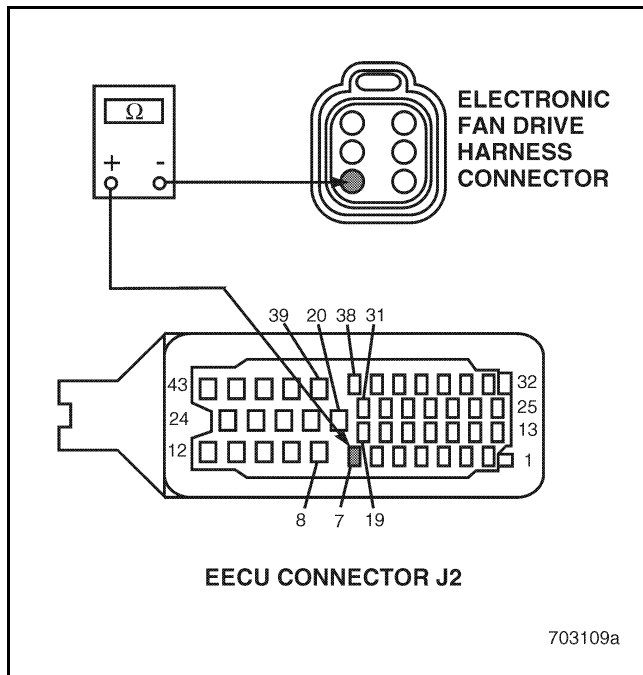

Figure 125
4. Check for continuity between EECU harness connector J2 pin 7 and electronic fan drive harness connector pin 3 (see Figure 125).